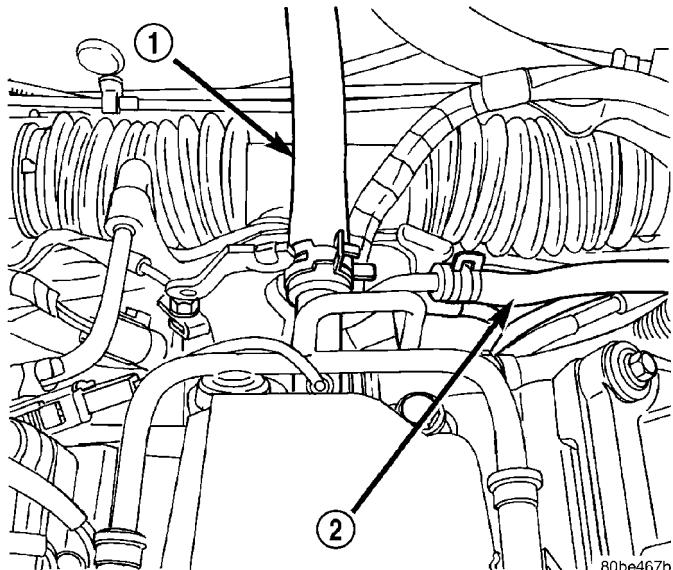

Fig. 127 HEATER SUPPLY HOSE CONNECTIONS
(1) Perform fuel pressure release procedure. (Refer to 14 - FUEL SYSTEM/FUEL DELIVERY - STANDARD PROCEDURE)
(2) Drain the cooling system. (Refer to 7 - COOLING - STANDARD PROCEDURE)
(3) Disconnect the radiator upper hose from the coolant outlet at front of manifold.
(4) Remove the upper intake manifold. (Refer to 9 - ENGINE/MANIFOLDS/INTAKE MANIFOLD - REMOVAL)
(5) Disconnect the electrical connectors to fuel injectors and coolant temperature sensor.
(6) Disconnect heater and coolant bottle supply hoses from coolant tube at rear of intake manifold (Fig. 127).
(6) Install screw attaching fuel rail support bracket to the throttle body support bracket.
(7) Connect fuel supply hose to fuel rail. (Refer to 14 - FUEL SYSTEM/FUEL DELIVERY/FUEL LINES - STANDARD PROCEDURE)
(8) Connect heater and coolant bottle supply hoses to coolant tube at rear of intake manifold (Fig. 127).